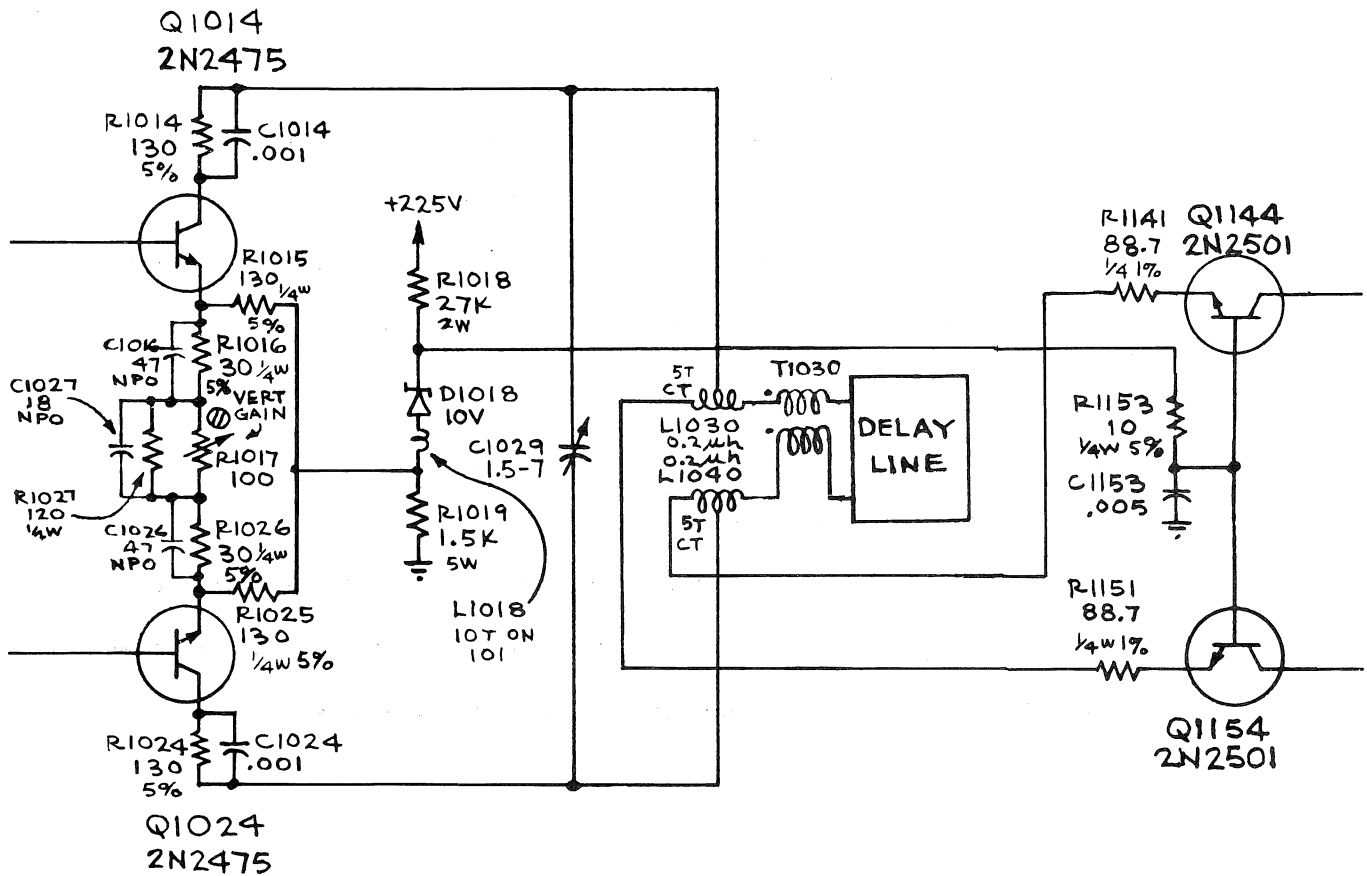

Figure 1-3
3. Second stage (Q1014 and Q1024) (Fig. 1-3)